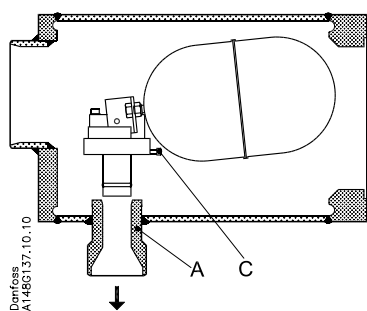
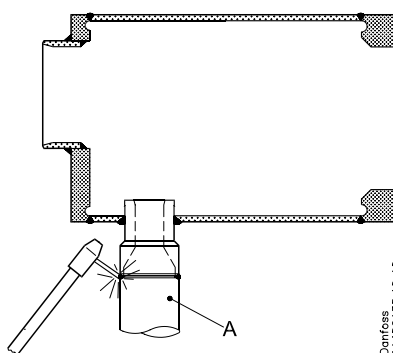

Fig. 1
Fig. 2
Mount the float valve horizontally with the outlet branch pos. A (fig. 1) vertically downwards.
The flow direction has to be from the flanged inlet as indicated with the arrow (fig. 1).
- Unscrew the screw pos. C (fig. 1) and lift up the float assembly from the outlet.
- Weld the outlet branch pos. A (fig. 1) into the plant as shown in fig. 2.
NB! When demand is heavy at low temperature operation, we recommend to check the velocity in the outlet branch. If necessary the diameter of the pipe which is welded on to the outlet branch pos. A (fig. 1) can be increased.